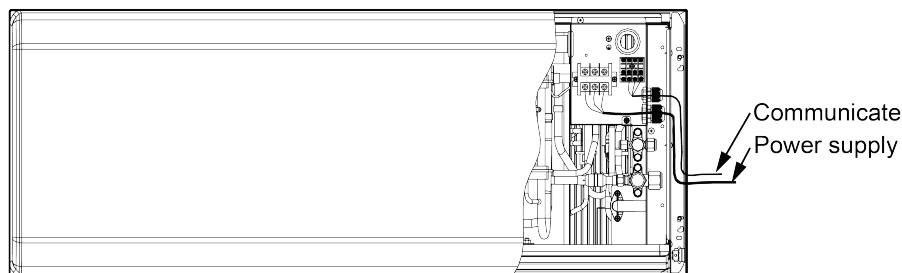

Fig. 31
- (1) Please refer Fig. 31 for engineering wiring. If there is the hole for cable tie in wiring route, please fix the wire with cable tie. Connect the power cord and communication cable to the corresponding terminal board and grounding screw according to the wiring diagram.
- (2) Please be noted that engineering wiring cannot touch the pipe and appliance.
- (3) This figure is only applicable for engineering wiring reference of power supply and communication cable. If there are differences between the figure structure and actual unit, please refer to the actual unit.
- (4) For engineering wiring, please refer to the wiring diagram provided with the unit.